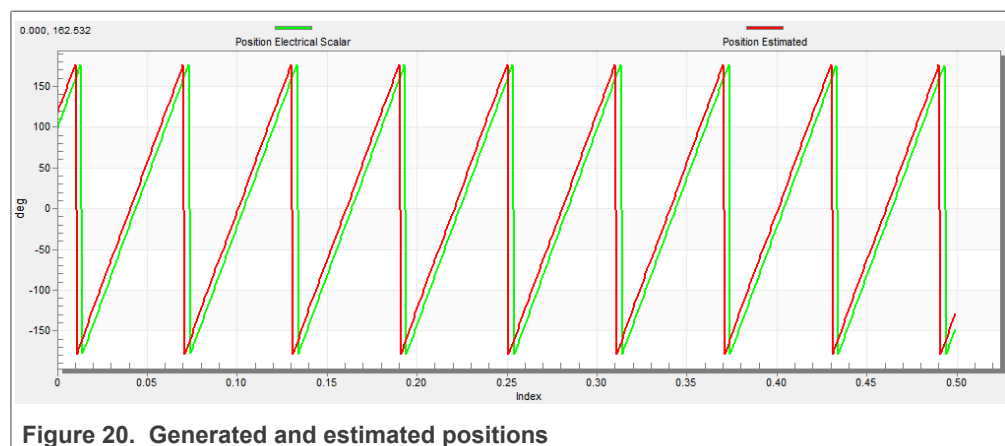

Figure 20. Generated and estimated positions
- Select the “Position” recorder to check the observer functionality. The difference between the “Position Electrical Scalar” and the “Position Estimated” should be minimal (see Figure 20) for the Back-EMF position and speed observer to work properly. The position difference depends on the motor load. The higher the load, the bigger the difference between the positions due to the load angle.